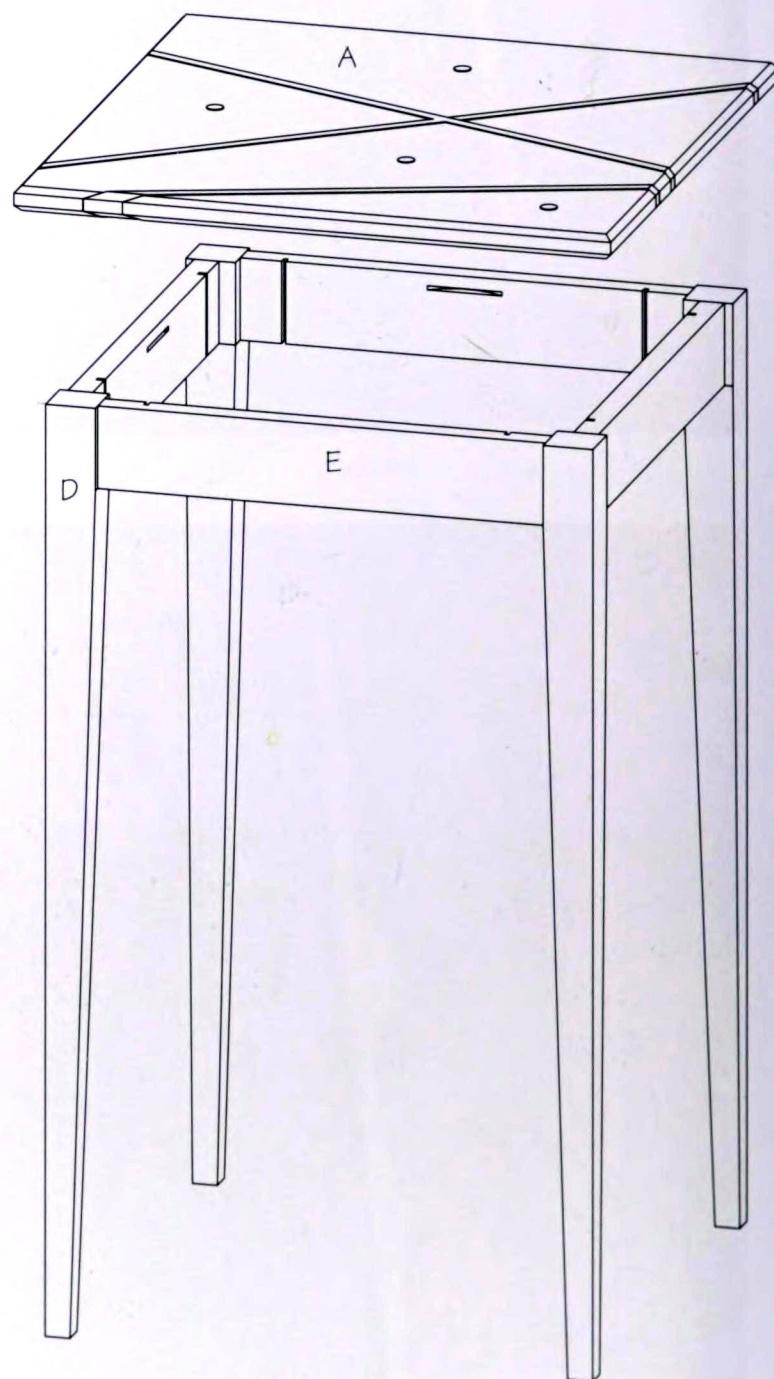

figure 2
1. Prepare maple or poplar stock ¾" thick and 2½" wide for the aprons (E). Cut the aprons to 13½" long.
2. Cut slots for the four table top fasteners on the inside faces of the aprons, one per apron. You may cut the slots with a biscuit joiner, or you may cut one long, ¼"-deep slot with the table saw. In either case, the slot must begin slightly more than the depth of the fastener from the top edge of the apron. Usually this distance is ⅜", but check your fasteners before cutting the slots. If you use a biscuit joiner, center the slot lengthwise on each apron. See figure 2 and photo 4.